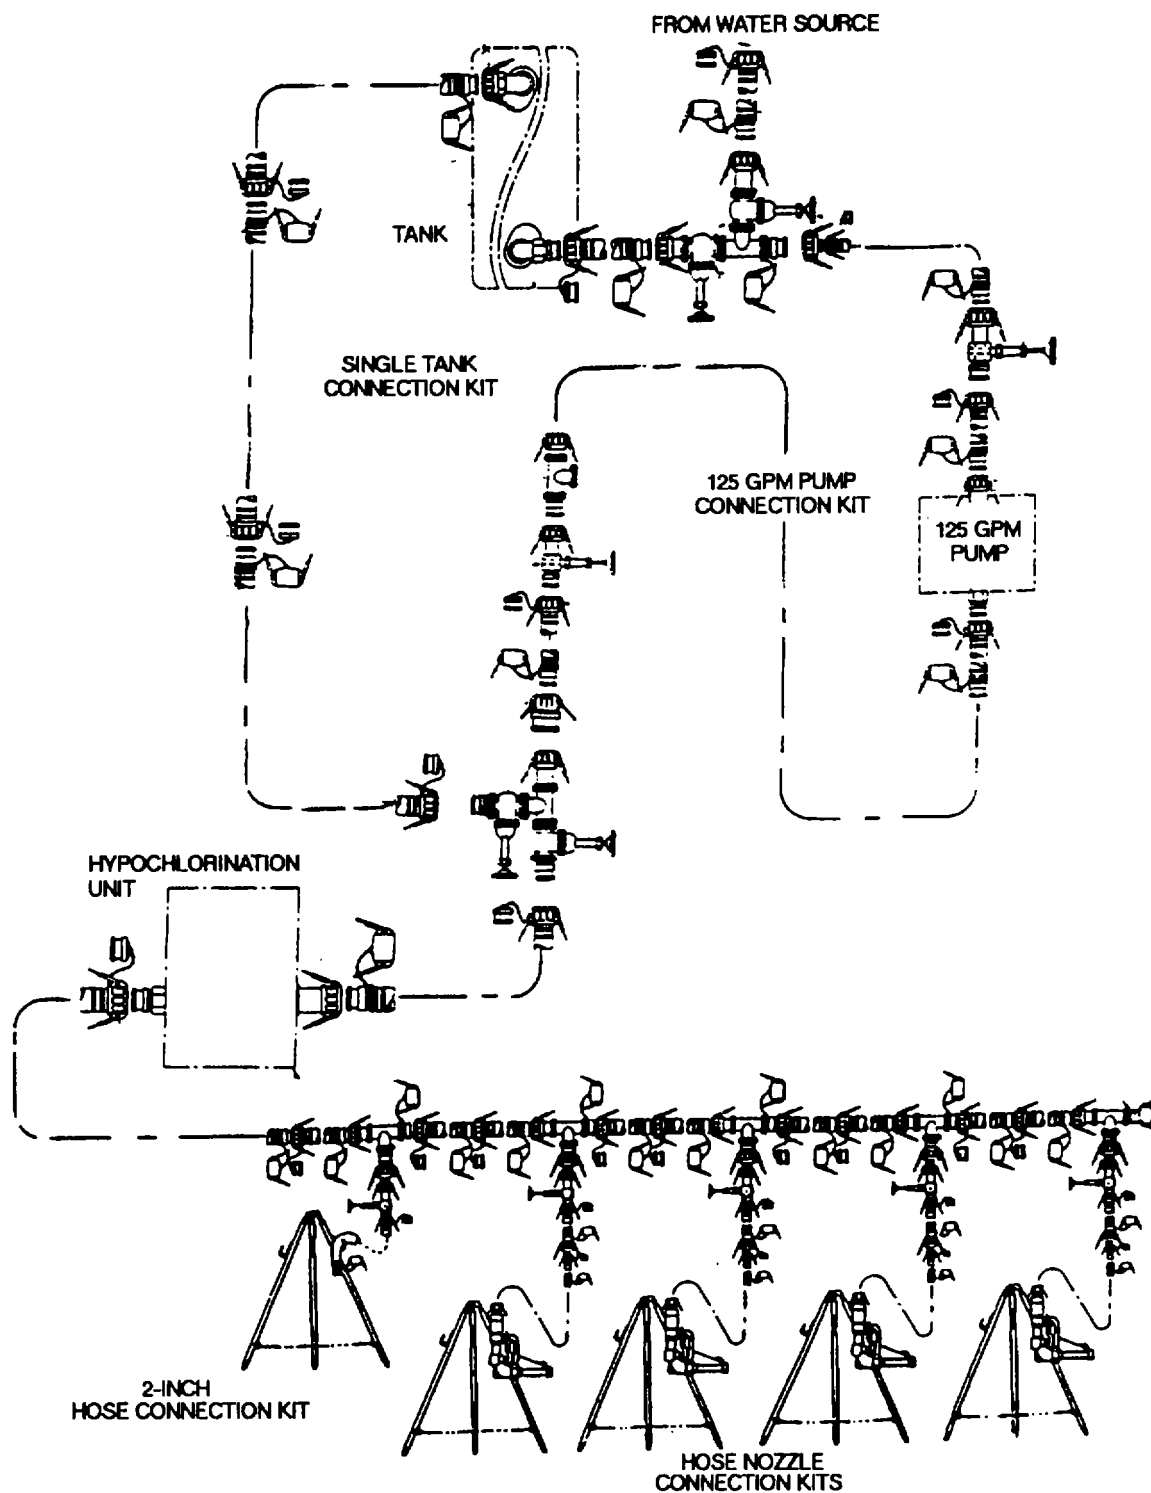

Figure 1-1. 20K Gallon Water Storage and Distribution System
1.10 LOCATION AND DESCRIPTION OF MAJOR COMPONENTS. (REFER TO FIGURE 1-1)